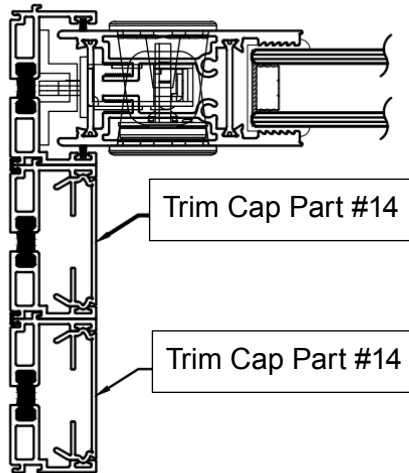
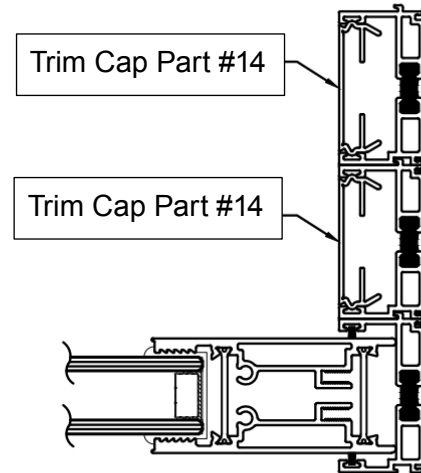

FIGURE 21A
FIGURE 21B
25. Install the longest trim cap pieces (Part #14) into the exterior and center jamb tracks (Part #11) on the operable side as shown in figure 21a then install the other two trim caps that are the same length into the interior and center jamb tracks shown in figure 21b.